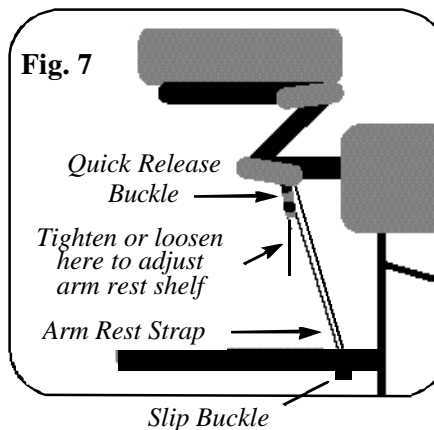
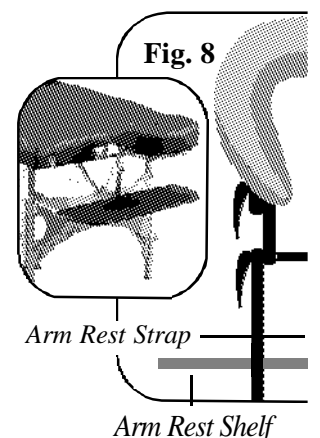

Fig. 7
Fig. 8
Slide the strap back through the strap slot. You will see that the slip buckle is now in place and keeps it from pulling through the slot. Fig. 7
7. Snap the two ends of the quick release buckle together around the QuickLock™ face rest. See Fig. 8
8. To adjust your Arm Rest Shelf, pull on the strap to raise the Arm Rest Shelf. To loosen the strap to lower it. See Fig. 7. When completed your arm rest shelf is attached to your table as seen in Fig. 8 inset.